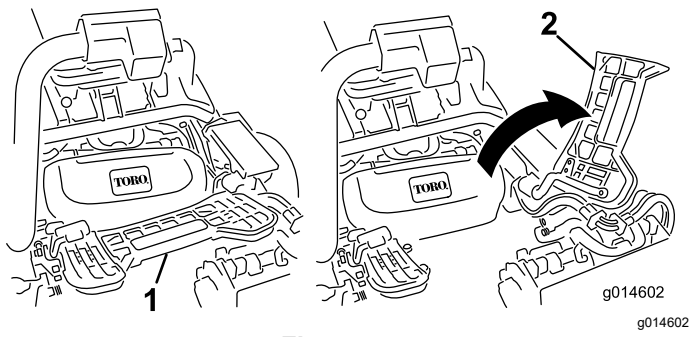

Figure 57
2. Lift up on the foot rest and swing it open, allowing access to the center cutting unit position (Figure 57).